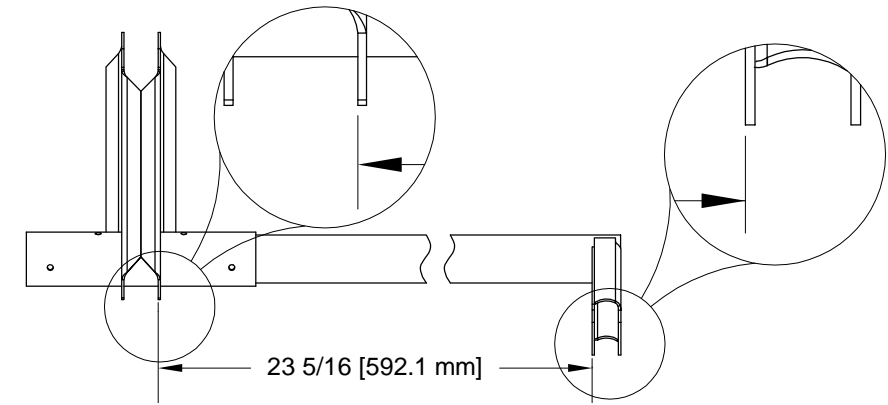

FIGURE 2: DISTANCE FLAP CRANK TO TORQUE ARM
Step 5: Position the CS-00010 Flap Torque Arm laterally from the WD-1013A Flap Crank using the dimension provided in Figure 2.